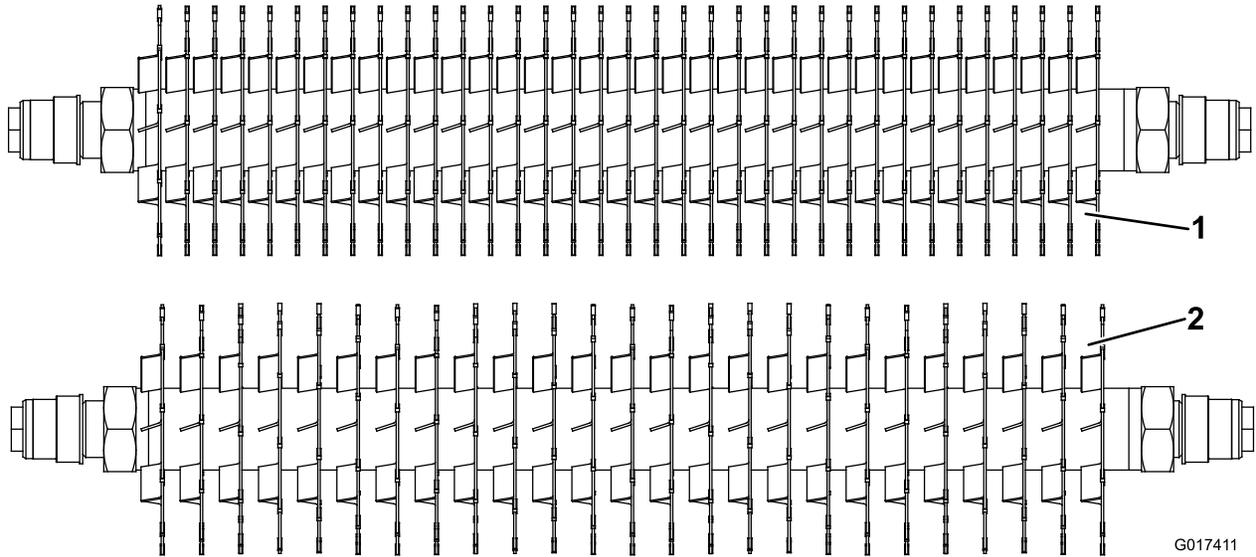

Figura 13
an additional (34) spacers, part no. 17-1580 and an additional (10) carbide blades, part no. 106-6355 or an additional (10) regular blades, part no. 17-1590 (Figura 13).